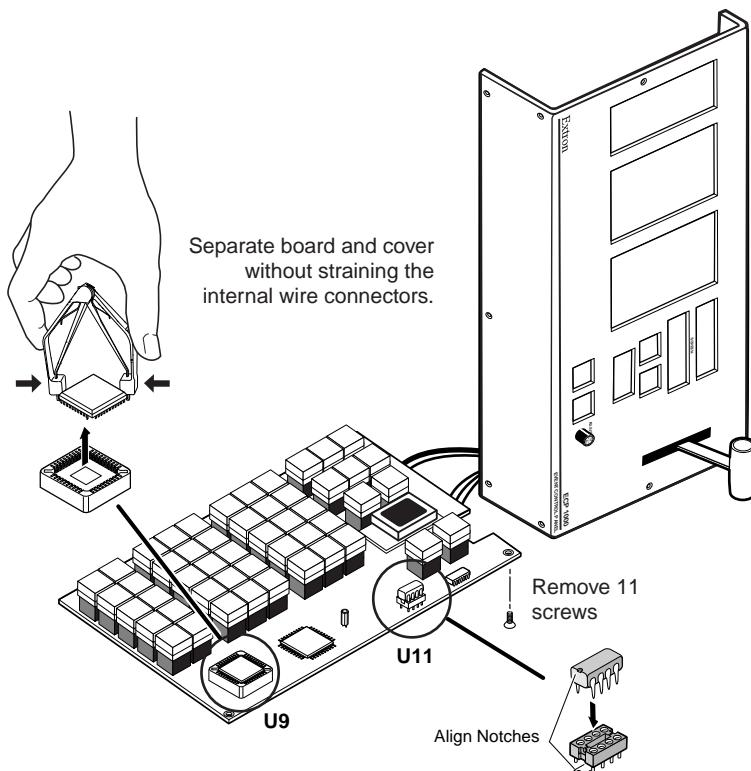

Figure A-3 — Locating and replacing ICs
4. Remove the 12 screws that attach the control board to the bottom of the ECP 1000 (figure A-3).
- Locate the ICs to be replaced (figure A-3). The update kit will list the specific ICs.